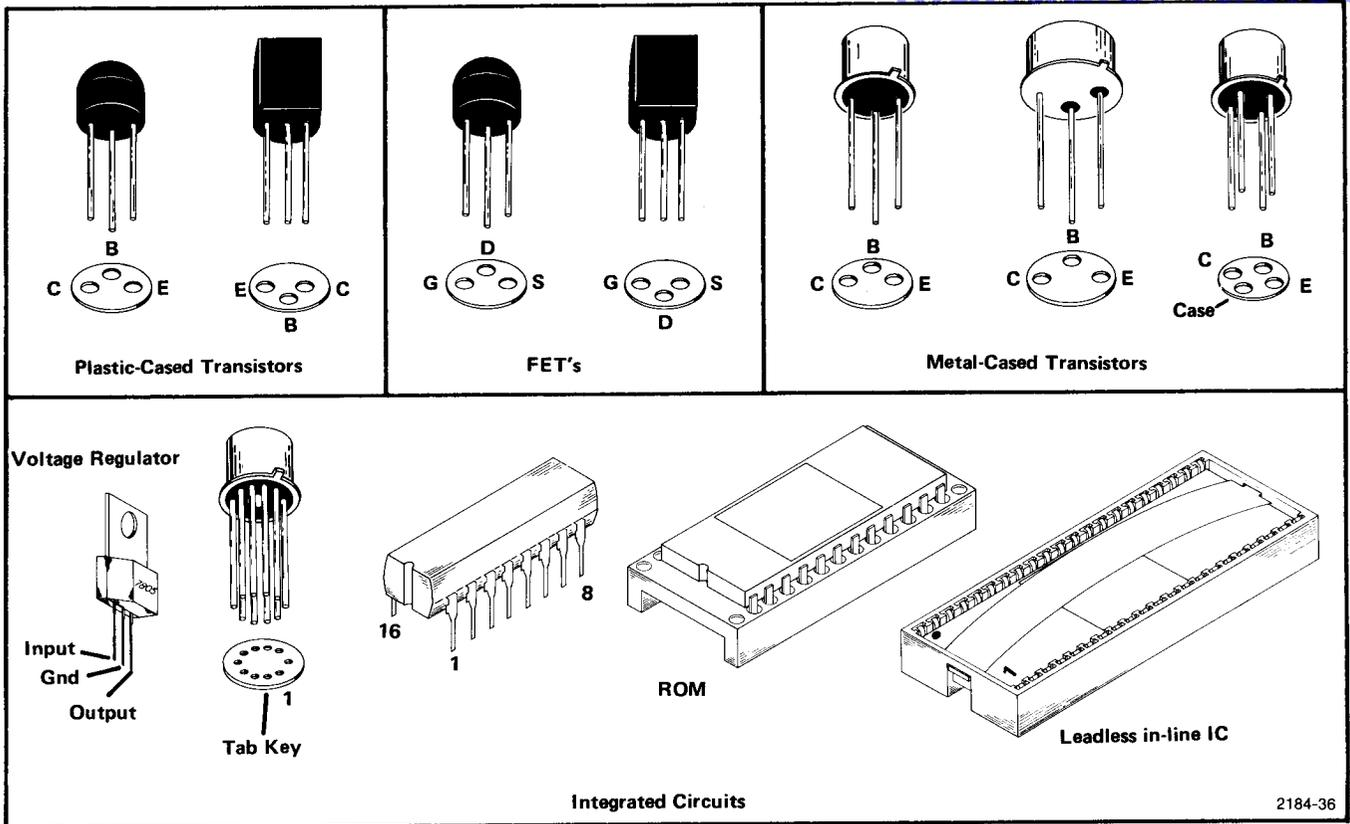

Fig. 4-4. Pin configuration for semiconductor components.
**Transistor and Integrated Circuit Electrode Configuration.** Lead identification for the transistors and MOS FET's is shown in Fig. 4-4. IC pin outs are shown either by table or box on the schematic diagram.